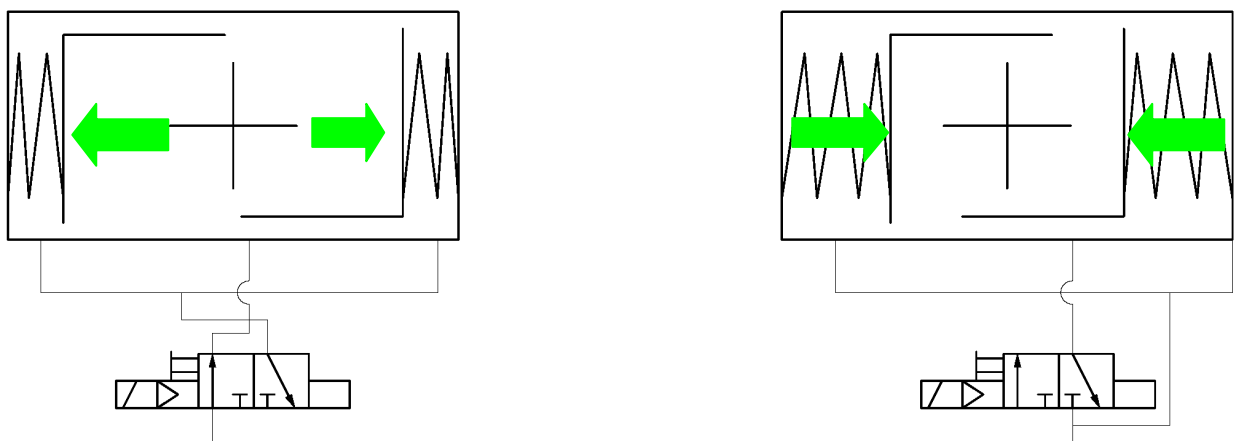

Fig. 2: Schematic diagrams for single-acting actuators EB DA
- ▶ single-acting actuators with spring reset EBx SR (F) are shown in Fig. 2
!	<p>In the standard version of the actuator, feeding control air to the left connection must cause an anticlockwise motion; feeding to the right connection must cause a clockwise motion.</p> <p>Spring-reset actuators are to be fed only via the right connection; see fig. 2</p>